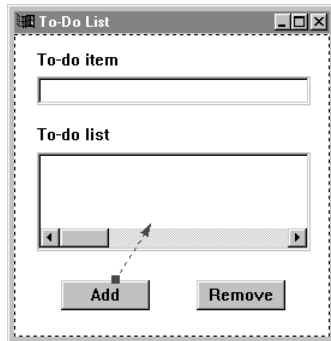

Figure 4. The Connection between the Add Push Button and the List Box
5. Select the *addAsLast* action. Selecting the *addAsLast* action means that you want new items to be added to the end of the to-do list whenever a user clicks the **Add** push button. The connection is shown in Figure 4 on page 17.